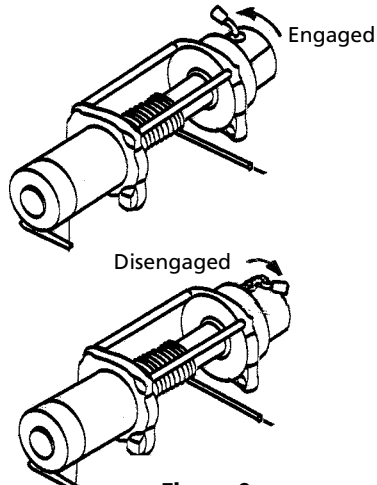

Figure 9
**Step (5)**
(See Figure 9) Set the freespool clutch knob to the "Disengaged" position. If there is a load on the wire rope the clutch knob may not move easily. DO NOT FORCE THE CLUTCH KNOB. Release tension on the clutch by jogging out some of the wire rope. Pull several feet of wire rope off the drum. Return the clutch knob back to, "Engaged" position. Activate the winch in Cable Out momentarily to check drum rotation direction. If the drum rotates in the wrong direction, recheck your wiring. Release the clutch and pull out the wire rope and secure to anchor or load. Check that there are least five (5) turns of wire rope left on the drum. Re-engage the drum by returning the clutch knob to the "Engaged" position.